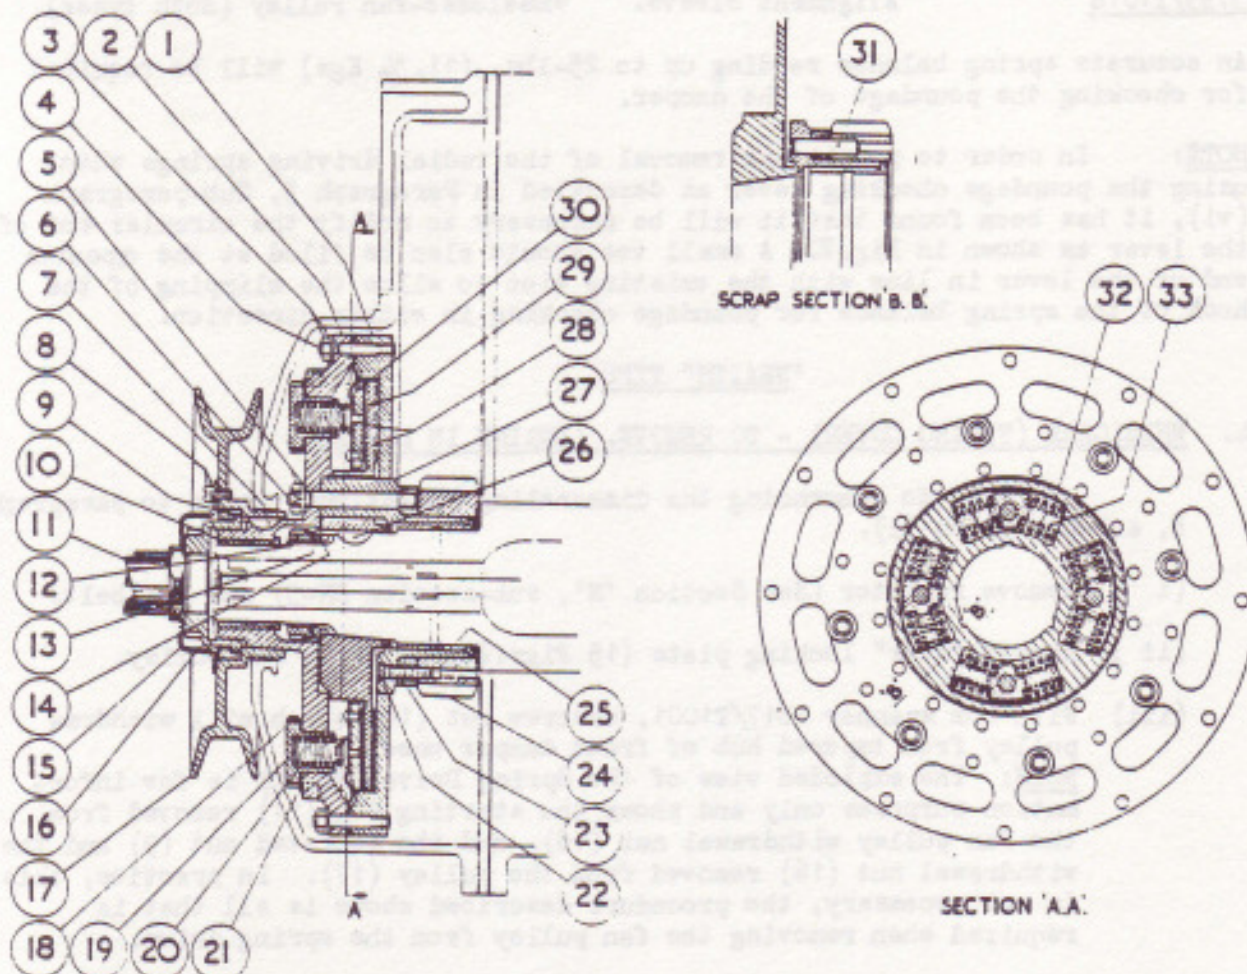

FIG. 21. SECTION - SPRING DRIVE ("WRAITH" TYPE.)
the crankshaft as high as possible, the weight of material rigidly attached to the Crankshaft at this point must be and is kept to a minimum. It will be noted that this is the friction drum only (29 Fig. 21 and 20 Fig. 28). On both types of Spring Drives, the Pinion, Fan Pulley, Damper Flywheels and Starter Dog, are the floating mass parts for inertia effect.
THE SPRING DRIVE provides a flexible coupling between the Crankshaft and the Crankshaft Pinion, its function being to maintain a constant pressure at the driving teeth irrespective of the variations in load - as imposed by the camshaft. The pinion is driven by radially disposed Coil Springs (32 & 33 Fig. 21 and 24 & 25 Fig. 28). These springs are interposed between Dog members which are attached to the Crankshaft and the Pinion.
Notation List for Fig. 21.
(ii) Remove "star" locking plate (15 Figs. 21 & 22) from fan pulley.
- (ii) Remove the four nuts (5 Fig 21), then the twelve 2-BA nuts (3) from rim of damper wheel. Remove front damper wheel (2), taking care not to lose any of the eight damping springs (20) and adjusting washers (19) if the latter are fitted.
- (iii) Remove presser plate (30) and cotton duck friction washer adjacent to it.
- (iv) Bend back tabs of lockwasher (13), and with the serrated spanner, 3759/T1007, remove nut 12 (R.H. thread) from crankshaft. Remove the plain washer (14).
- (v) Attach the extractor, 1617/T1003 to the four hub studs (6 Fig. 21) and remove "rear half" of spring drive complete with pinion from crankshaft.
- Attach the poundage checking lever, 1617/G1003 to two of the four 1/4" B.S.F. hub studs and take the strain one way which will ease the tension on four pairs of springs and make removal of them easier. It should be noted that the driving springs are retained in position at one end only (See "Section A.A." Fig. 21) and thus require to be compressed before they can be extracted. To effect this, the blade of a suitable screw-driver should be inserted between a spring and the corresponding driving dog of the friction drum (29) and the spring compressed and prised upwards until it is clear of the friction drum. Take care not to distort springs during their removal.
NOTE: The radial driving springs (32 & 33 Fig. 21) must be omitted during these operations.
- (ix) Tighten up the four nuts of the hub studs (6 Fig. 21) and then evenly tighten up nuts of the twelve rim studs and leave friction washers under compression for about twelve hours if time permits.